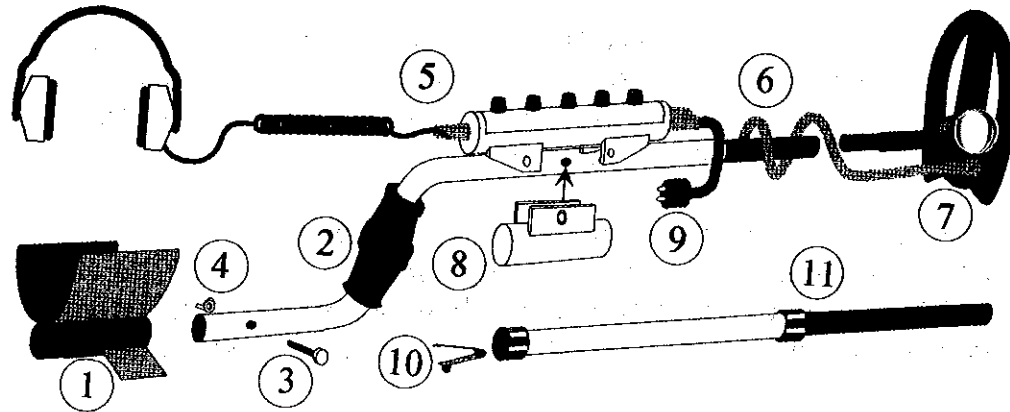

Figure 1 - Excalibur Assembly Diagram
- Remove the black nylon bolt (3) and black wing nut (4) from the armrest (1).
- Slide the armrest (1) (with support fins toward the front and pointing to the ground) onto the end of the grey main shaft (2). Line up the holes at a comfortable position for the length of your arm.
- Push the black nylon bolt (3) through the holes and tighten the black nylon wing nut (4) by hand.
- The electronics cylinder (5) and battery cylinder (8) should already be clipped onto the main shaft (2).
- If this is not the case then first clip the electronics cylinder onto the main shaft, as shown in figure 1. Ensure that the headphones cable end is nearest the handgrip and that the cylinder locks into place correctly.
- Next, clip the battery cylinder (8) onto the main shaft in the space provided by the electronics cylinder, as shown in figure 1. Ensure that the cable connection side faces away from the handgrip.
- Connect the battery cable (9) to the battery cylinder. The connection uses a water exclusion seal that needs to be firmly tightened by hand, otherwise salt water may enter the connection causing instability and corrosion of contacts.
- Remove the spring clip (10) from the main shaft by pressing down on the button and pulling the cable tie. This is located at the opposite end of the shaft to the handgrip.
- B. To ensure that this does not get lost whilst using divers mode, push it into one of the holes in the middle shaft (11).
- C. Wrap the search coil cable (6) around the bottom of the main shaft. Leave enough slack cable to be able to slide the search coil (7) into the black fibreglass tube bottom of the main shaft.